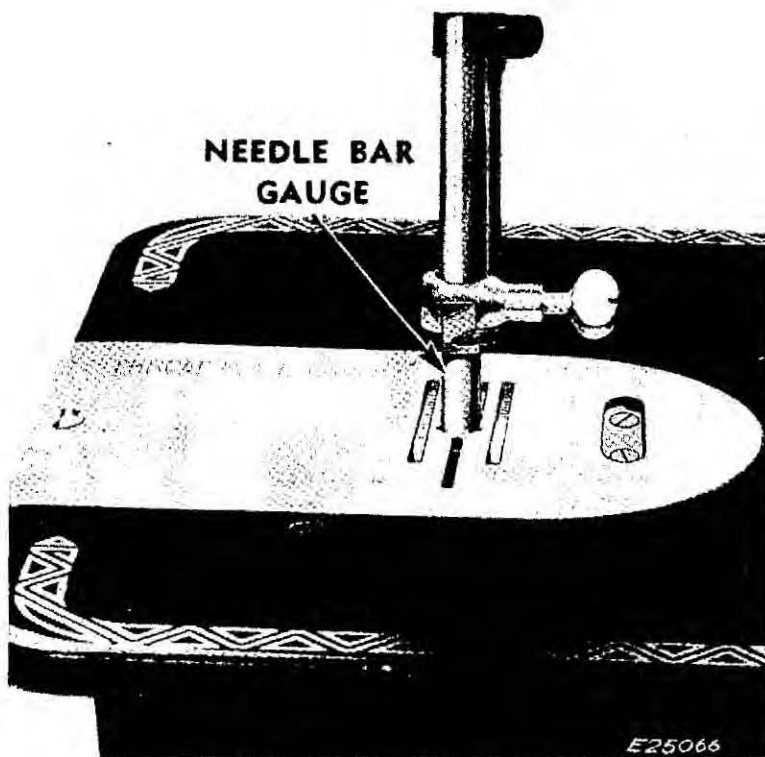

Fig. 65. Needle Bar Height and Radial Alignment
2. Replace throat plate with throat plate gauge No. G34200 as illustrated in Fig. 65.